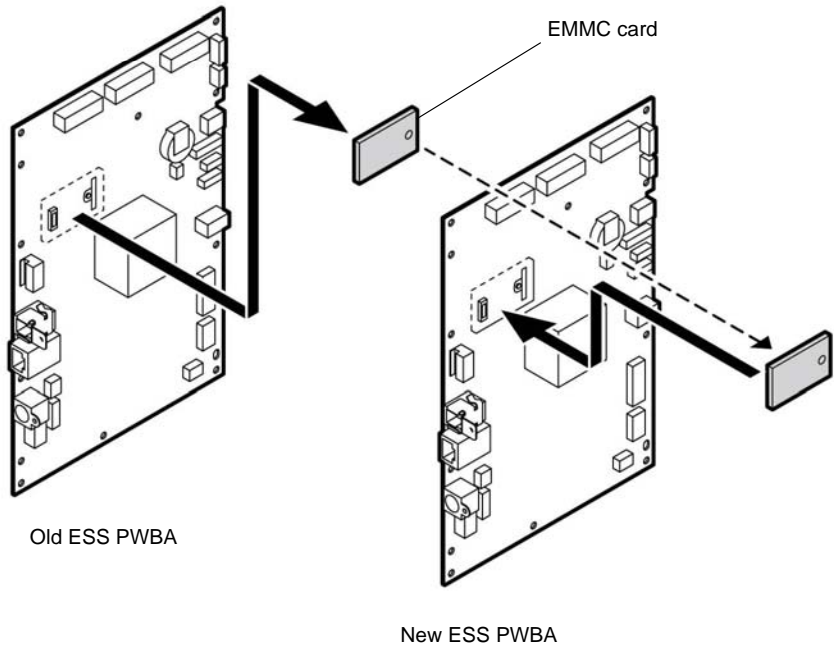

Figure 4 Transfer the EMMC card
- If installing a new ESS PWBA, remove the EMMC card from the old ESS PWBA, then install the EMMC card onto the new ESS PWBA, before the new ESS PWBA is installed, Figure 4.